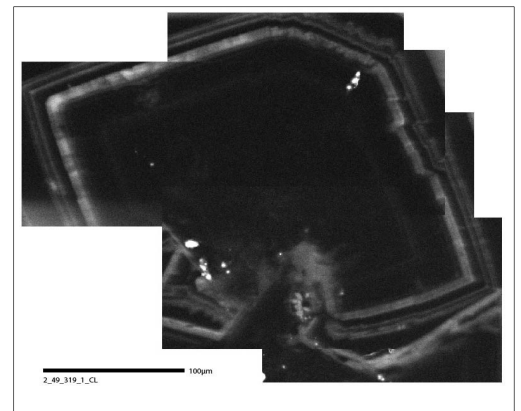

Figure 6: Same crystal as above but as shown in CL taken at WWU. Iron quenches the light, the iron rich bands are dark, and the iron poor bands are white.
- Cathodoluminescence (CL) analysis at WWU (combines optical and SEM techniques; Figure 6)